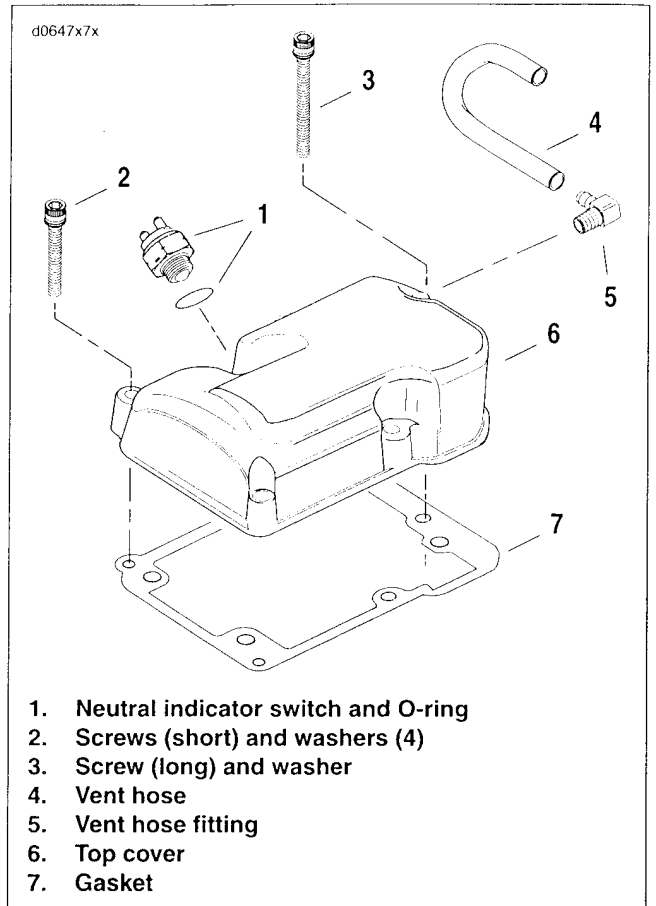
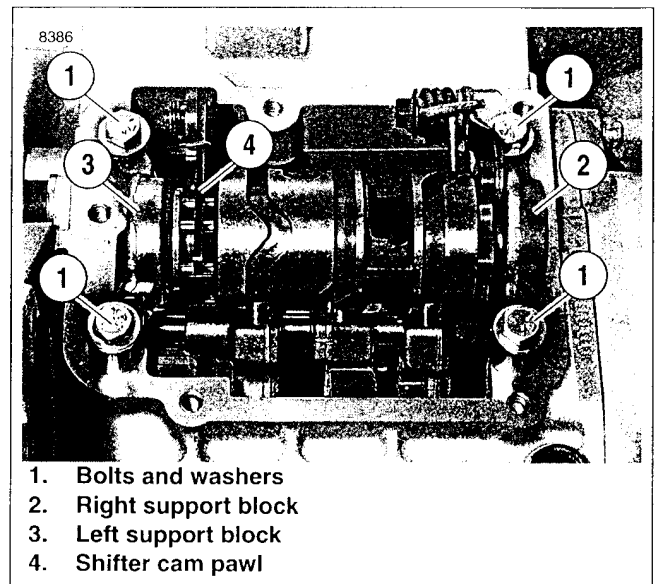

Figure 7-3. Cover Assembly
Figure 7-4. Support Block Fasteners
4. See Figure 7-3. Disconnect neutral indicator switch (1). See 8.29 NEUTRAL SWITCH.
5. Remove vent hose (4) from fitting (5) on cover to provide additional clearance for removal if needed.
- b. Remove the top cover (6) and cover gasket (7).
7. See Figure 7-4. Remove four bolts and washers (1) to free the right (2) and left (3) support blocks.
8. Lift shifter cam pawl (4) over cam pins to free assembly.